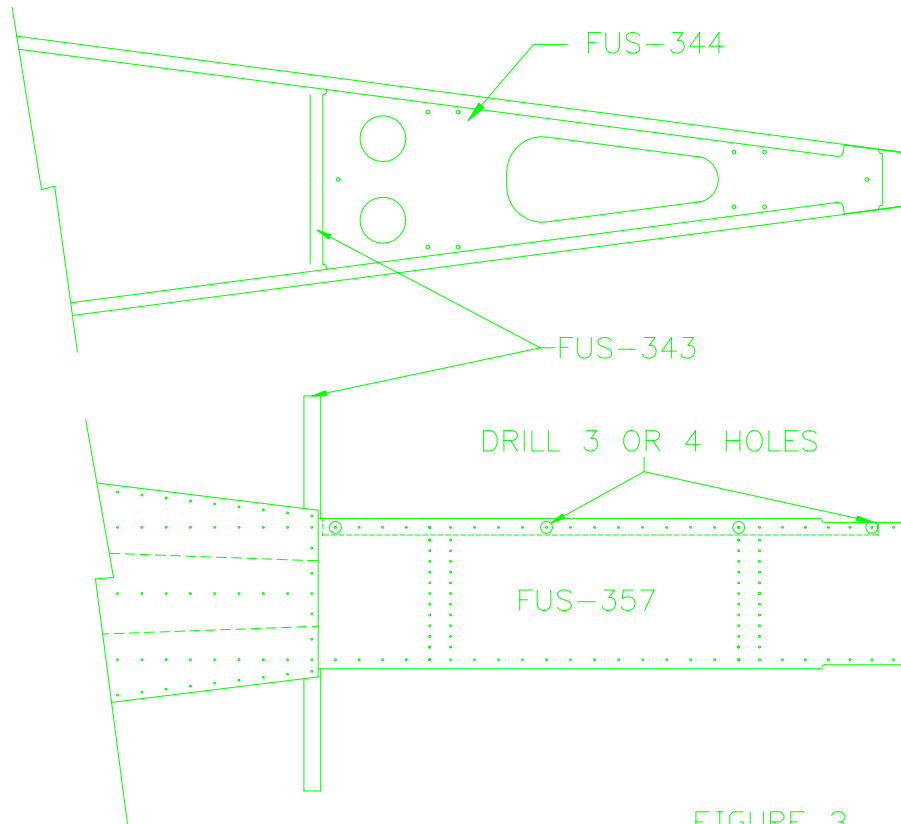

FIGURE 3
- 19) Position the FUS-344 horizontal bulkhead between the FUS-357 fuselage rear panels. Drill three or four #40 holes on each side. Figure 3.